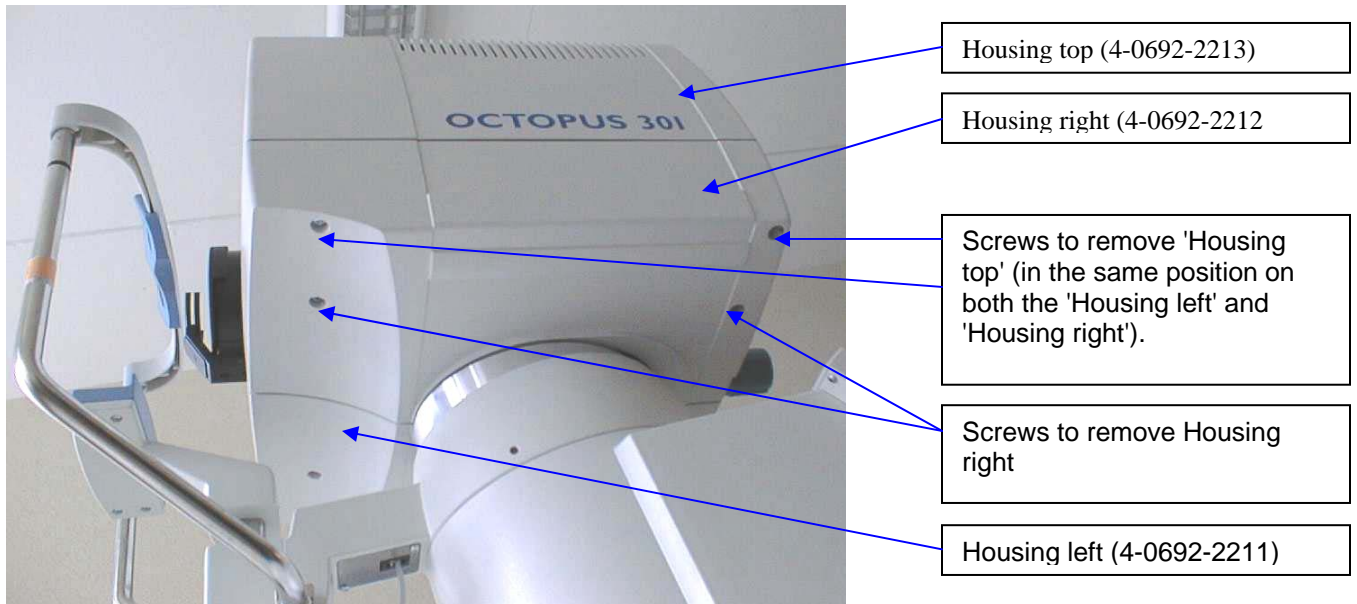

Figure 7-1
- Remove the 'Housing top' by removing the four Phillips (M4) screws in each outer corner from the bottom part of the 'Housing left' and 'Housing right' (see Figure 7-1).
- Remove the 'Housings left' and 'Housing right' by removing the 4 Phillips (M4) screws in each inner corner from the bottom of the 'Housings left-/right' (see Figure 7-1). The Optical unit can be swung in a left/right movement for easy access. Remove the 'Housing left-/right' by gently lifting both parts out of the instrument. Place both parts on a clean surface.